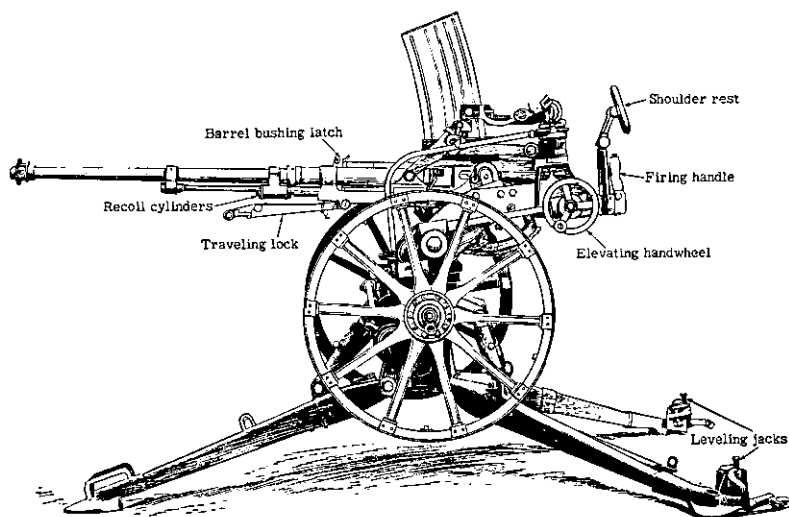

Figure 112.—Model 98 (1938) 20-mm antiaircraft-antitank machine cannon (left side).
(1) Its general appearance, which is different from any other Japanese field piece (see fig. 112).
(2) The front outrigger.
(3) The barrel traveling lock.
(4) The marking $\begin{matrix} 九 \\ \wedge \\ 式 \end{matrix}$ which is on the top of the receiver. (This marking, which is read *Kyuhachi Shiki* from top to bottom, means "98 model.")